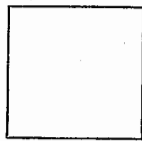

Fig. 44
39. A *Square* is a regular polygon of four sides, or in other words an equilateral rectangle. Fig. 44.